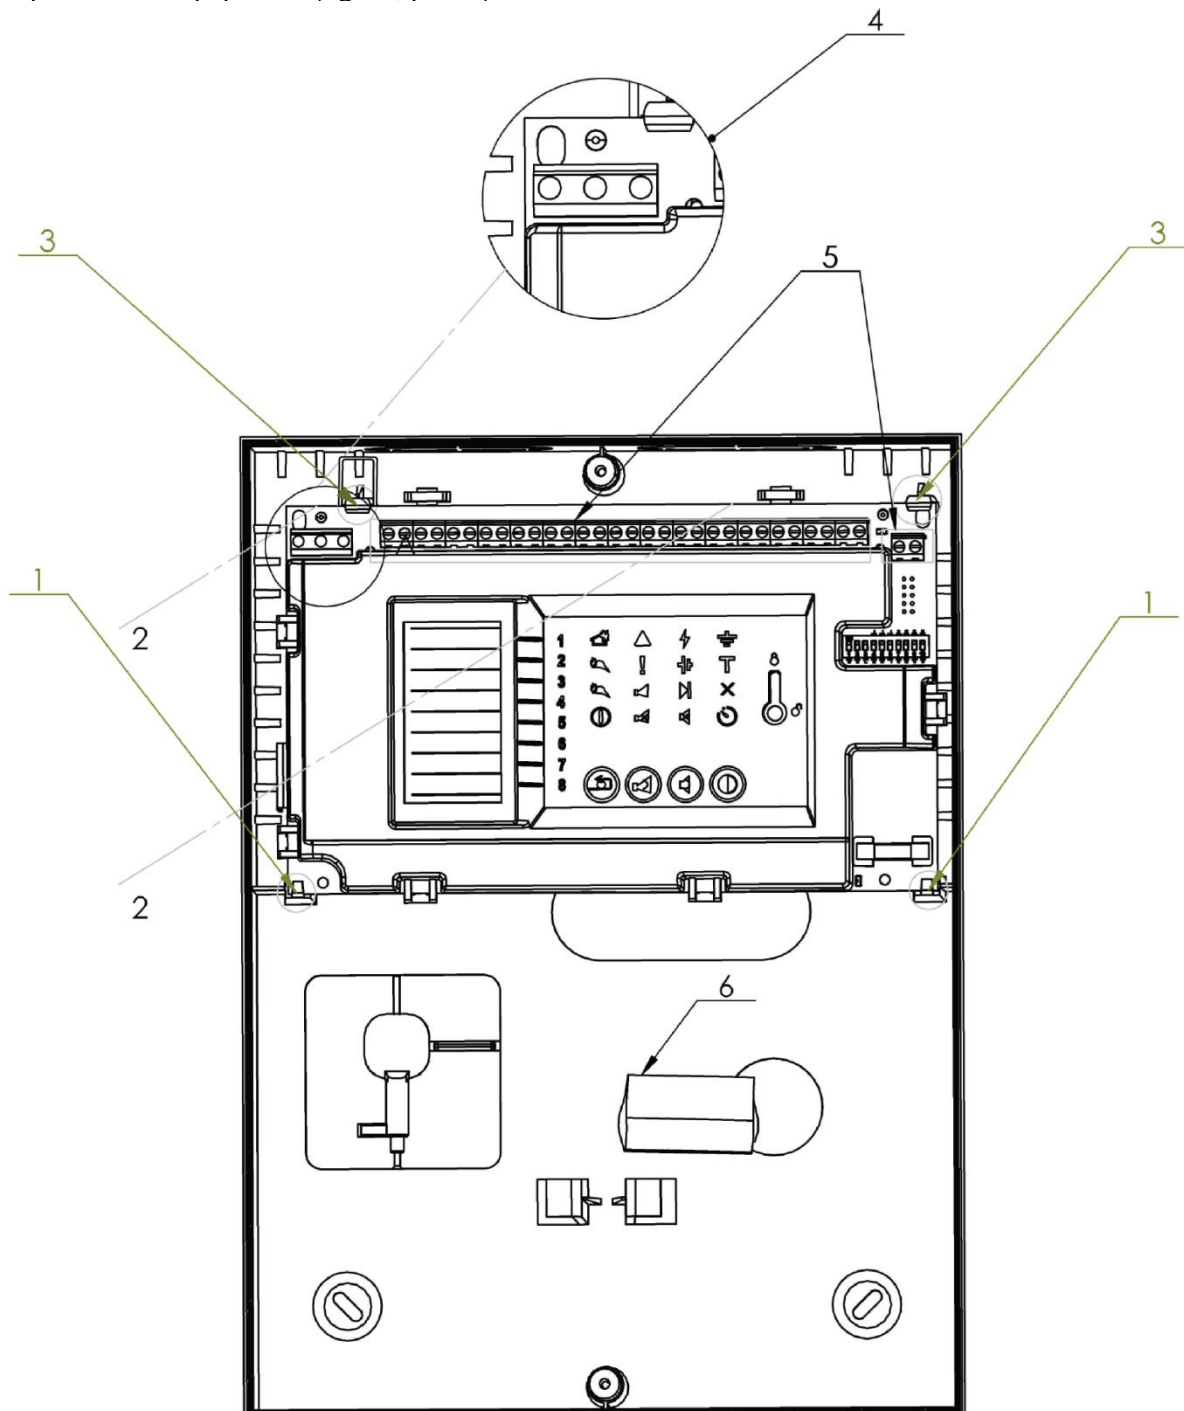

Fig.11
The interface board is put back to its initial position (Fig.11) :
- The bottom side of the interface board is mounted on the holders (fig.11, pos.1);
- The top side of the interface board is pushed until the top-side holders click to fix it (fig.11, pos.3);
- The power line is connected in the PCB connector in FCP (fig.11, pos.4);
- Fully tighten the signal line cables, dedicated to the conventional zones and fire alarm and protection equipment (fig.11, pos.5).